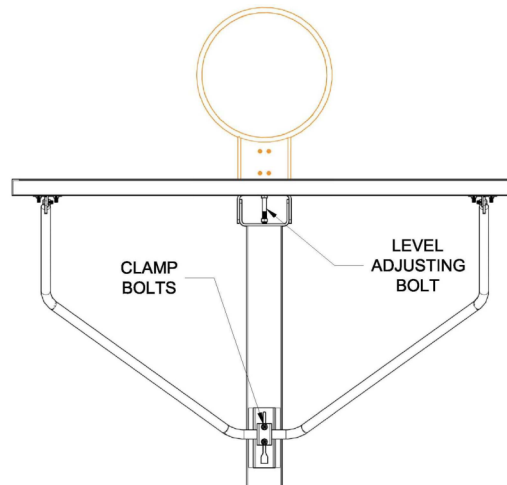

Figure 7
19. To level the backboard in the vertical plane, loosen the two carriage bolts at the board brace clamp on top of the boom. Refer to Figure 7. Using a 3/4" wrench, adjust the leveling bolt in the board mounting bracket until the backboard is plumb. Tighten the locking nuts on the leveling bolt. Tighten the two carriage bolts at the brace clamp securely.